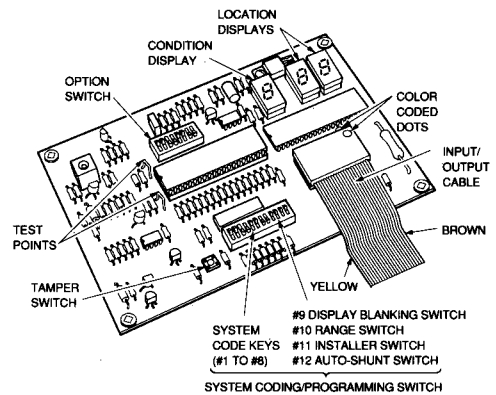
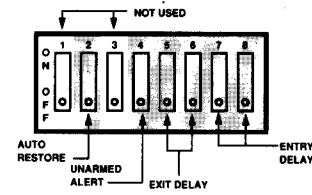

Figure 13. SS-32T Circuit Board
Figure 16. OPTION Switch Settings
The SS-32T has a spring-loaded tamper switch that, when activated, signals unauthorized access to the system circuits (see Figure 13). Set to activate when the case cover is removed, the tamper switch is wired in series with the closed circuit loop on the SS-32T's Input/Output (I/O) Cable.
Second, insert the connector slowly and carefully with pin #1 (red dot) in the upper right hand corner (see Figure 13).
5. Locate the **12-position code switch** on the SS-32T circuit board (see Figure 13).
An eight-key OPTION Switch, as shown in Figure 13, is used to enable the Auto Restore and Unarmed Alert options and select the Exit and Entry Delay times. Keys #1 and #3 are not used; they must always be set to OFF. Refer to Figure 16 when setting the following OPTION Switch keys.